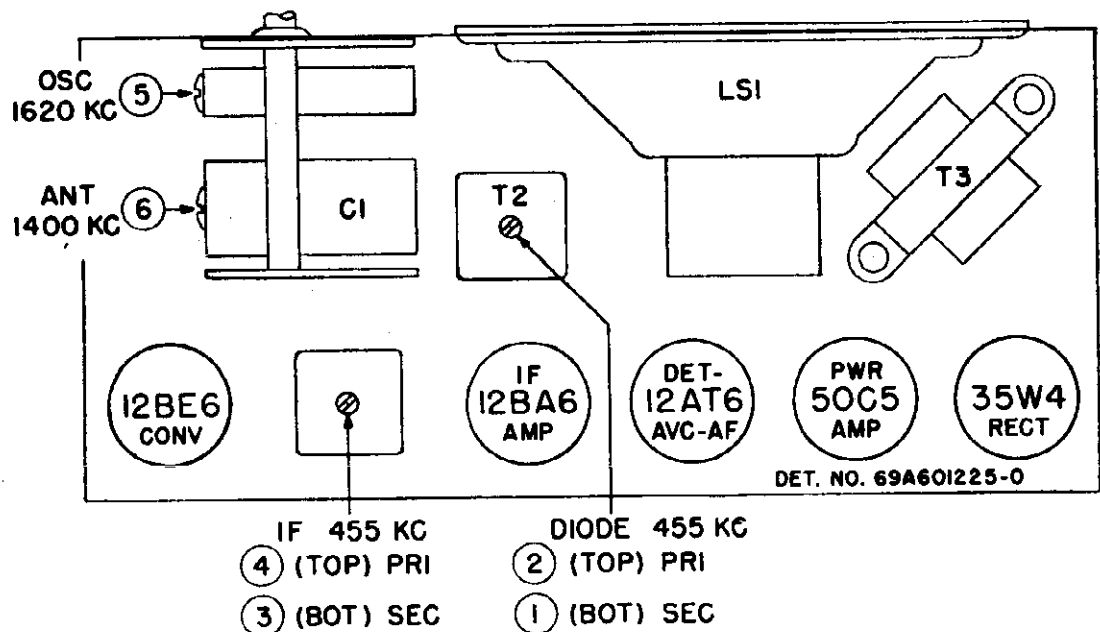

FIGURE 1. TUBE AND TRIMMER LOCATIONS
7. See Figure 1 for adjustment locations and the following chart for procedure.